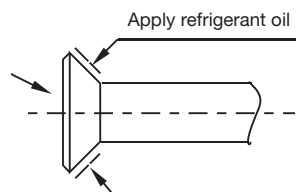

Fig.6-1
- Before screwing up the flared nut, apply refrigerant oil at the outer surface of the pipeline flare and the taper surface of the connection nut. Screw up the nut for 3~4 circles beforehand (see Fig.6-1).